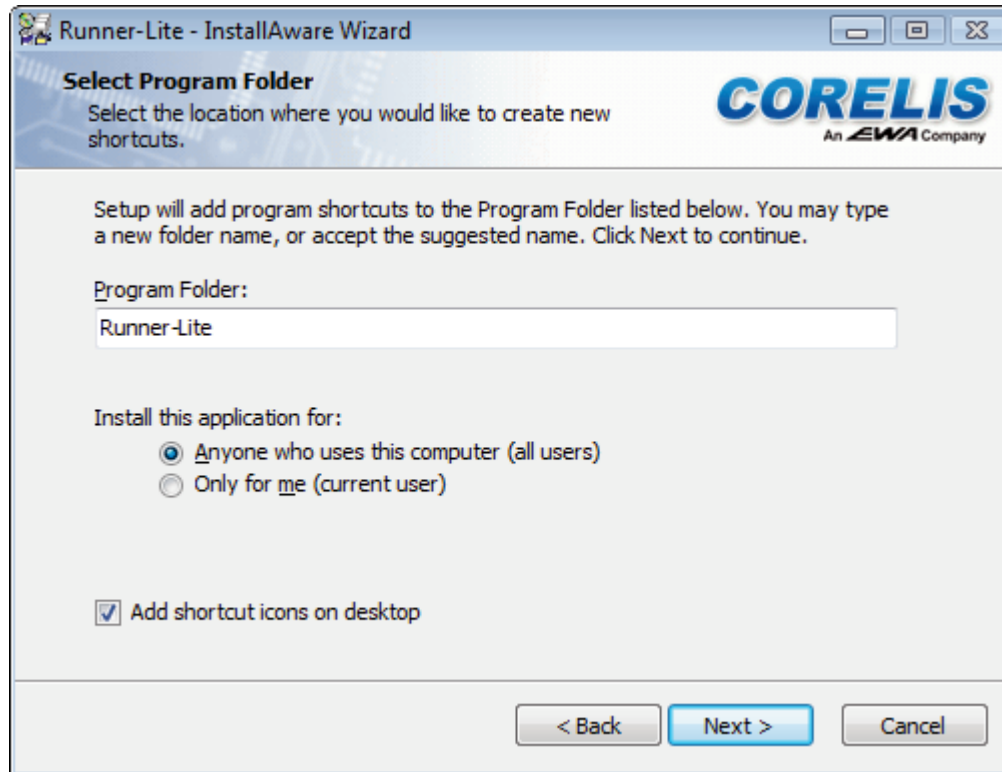

Figure 2-7. Select Program Folder Screen
8. The **Select Program Folder** screen, shown in Figure 2-7, will now appear. You may accept the default Program Folder, or specify a different program folder for the installation. Select the **Only for me** or **Anyone who uses this computer** option. If you would like the installation program to automatically place an icon for Runner-Lite on your desktop, check the **Add shortcut icons on desktop** checkbox. To proceed with the installation, click on the **Next** button.